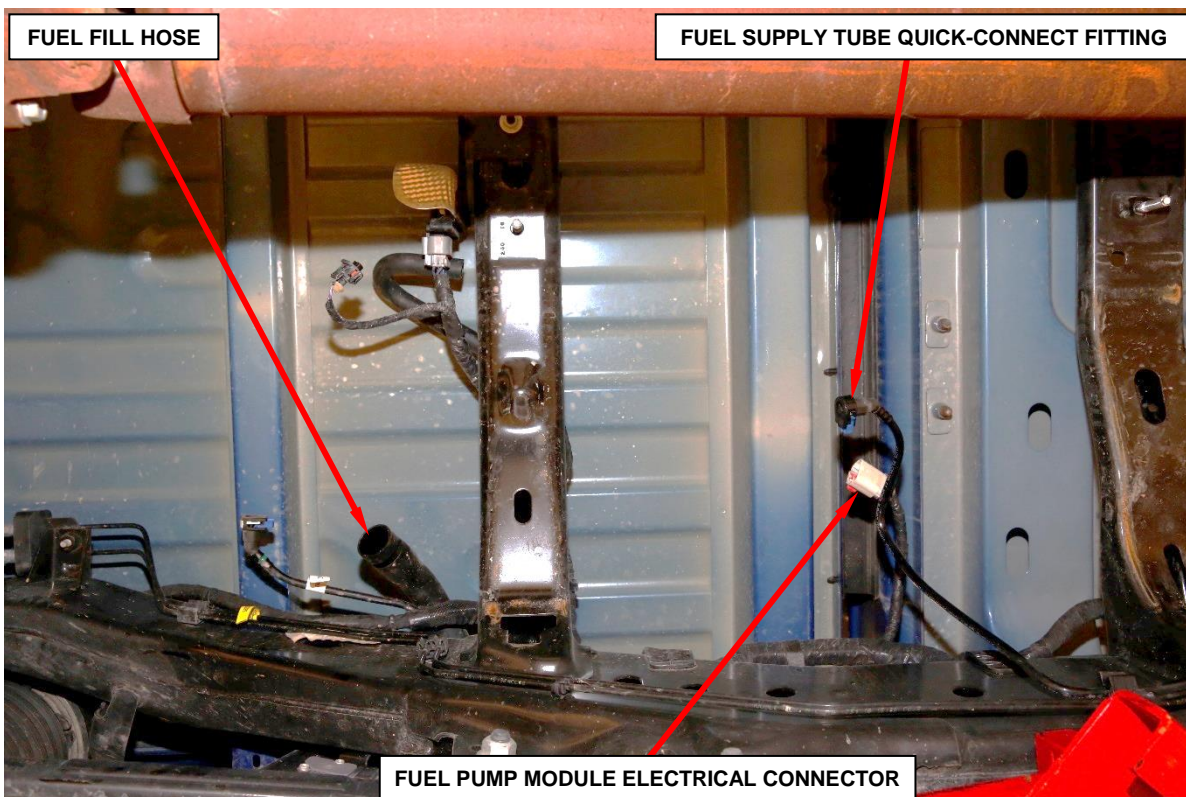

Figure 15 – Fuel Tank Electrical, Fuel and EVAP Connections
36. Disconnect the electrical connector at the fuel pump module (Figure 15).
37. Disconnect the fuel supply tube quick-connect fitting at the fuel pump module (Figure 15).
38. Loosen the fuel fill hose retaining clamp at the fuel tank and disconnect the fill hose from the fuel tank (Figure 15).
66. Connect the fuel supply tube to the fuel pump module (Figure 15).
67. Connect the electrical connector to the fuel pump module (Figure 15).
68. Connect the fuel fill hose to the fuel tank and securely tighten the fuel fill hose retaining clamp (Figure 15).